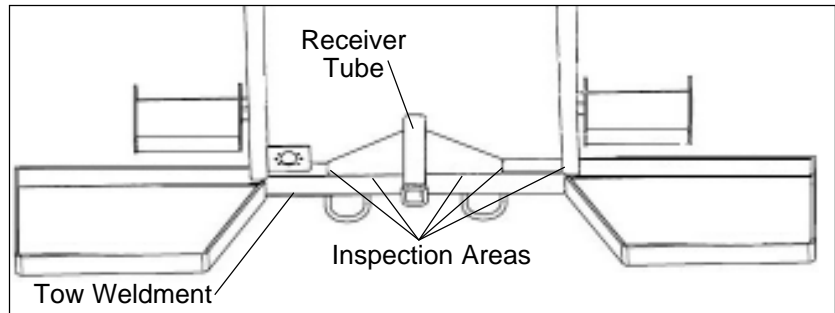
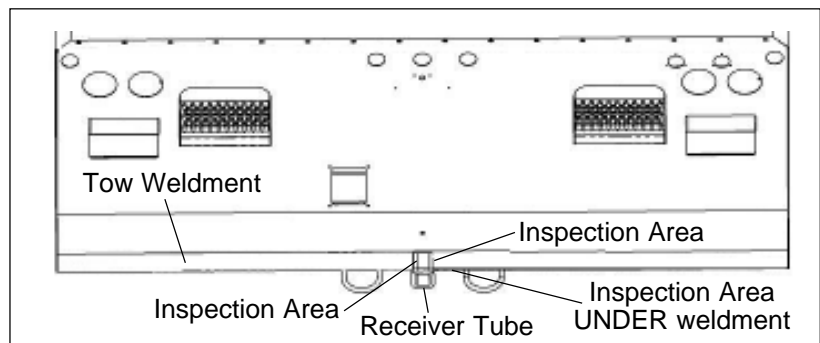

Figure 1 — Tow Weldment Inspection, Type 1
Figure 2 — Tow Weldment Inspection, Type 2
2. **Class III Hitch:** Two types of tow weldment installations are standard. There may be others determined by customer preference. Inspect the tow weldment for any cracks or deformed areas (refer to Figure 1 or Figure 2). Look at the welds at the corners and the receiver tube mounting on both sides of the tow weldment and the receiver tube. Also inspect the underside of the weldment/